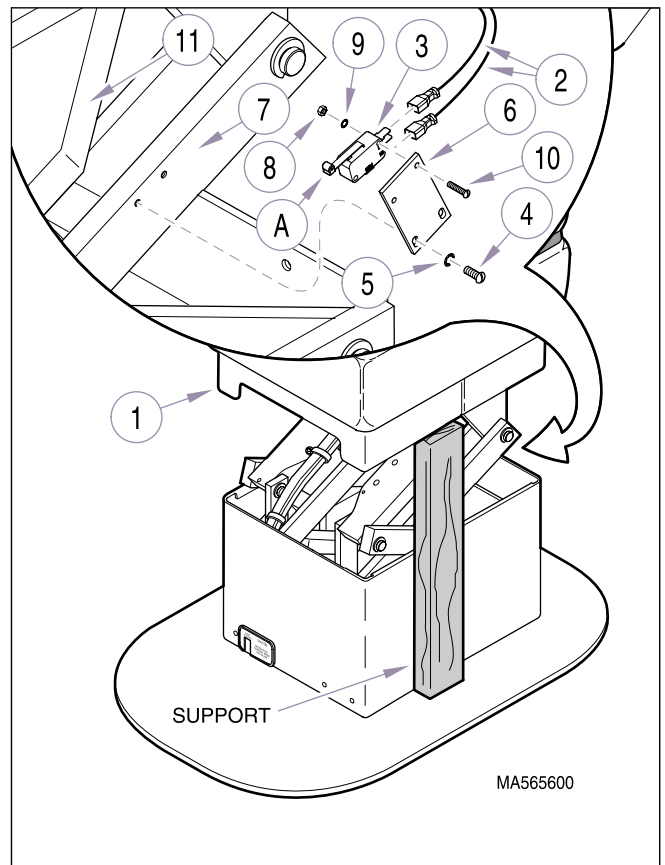

Figure 4-36. Base Up Limit Switch Removal / Installation / Adjustment
- (2) Unplug power cord from wall receptacle.
- (3) Raise up outer shroud (1, Figure 4-36) and use a support to hold it there.
- (1) Install limit switch (3, Figure 4-36) on switch mount (6) and secure with two screws (10), lockwashers (9), and two nuts (8).
- (2) Install switch mount (6) on column arm (7) and secure with two lockwashers (5) and screws (4). Do not tighten screws (4) at this time.
- (3) Connect two wires (2) to base up limit switch (3).
- (1) If not already done, perform steps 1 thru 3 of Removal to gain access to limit switch.
- (2) Raise base up function all the way up, then lower base down approximately 1/8 to 1/4 in. (3.2 to 6.35 cm).
- (3) Using an offset screwdriver, loosen two screws (4); then slide switch mount (6, Figure 4-36) upward until trip arm (A) of limit switch "just" trips against upper plate (11). Secure switch mount in this position by tightening two screws (4).
- (4) Check limit switch adjustment by running base down function all the way down and then base up function all the way up, making sure base up limit switch trips, stopping the base up function, before the base actuator begins to "freewheel".
- (5) Remove support and lower outer shroud (1) down.
- (6) Plug power cord into wall receptacle.